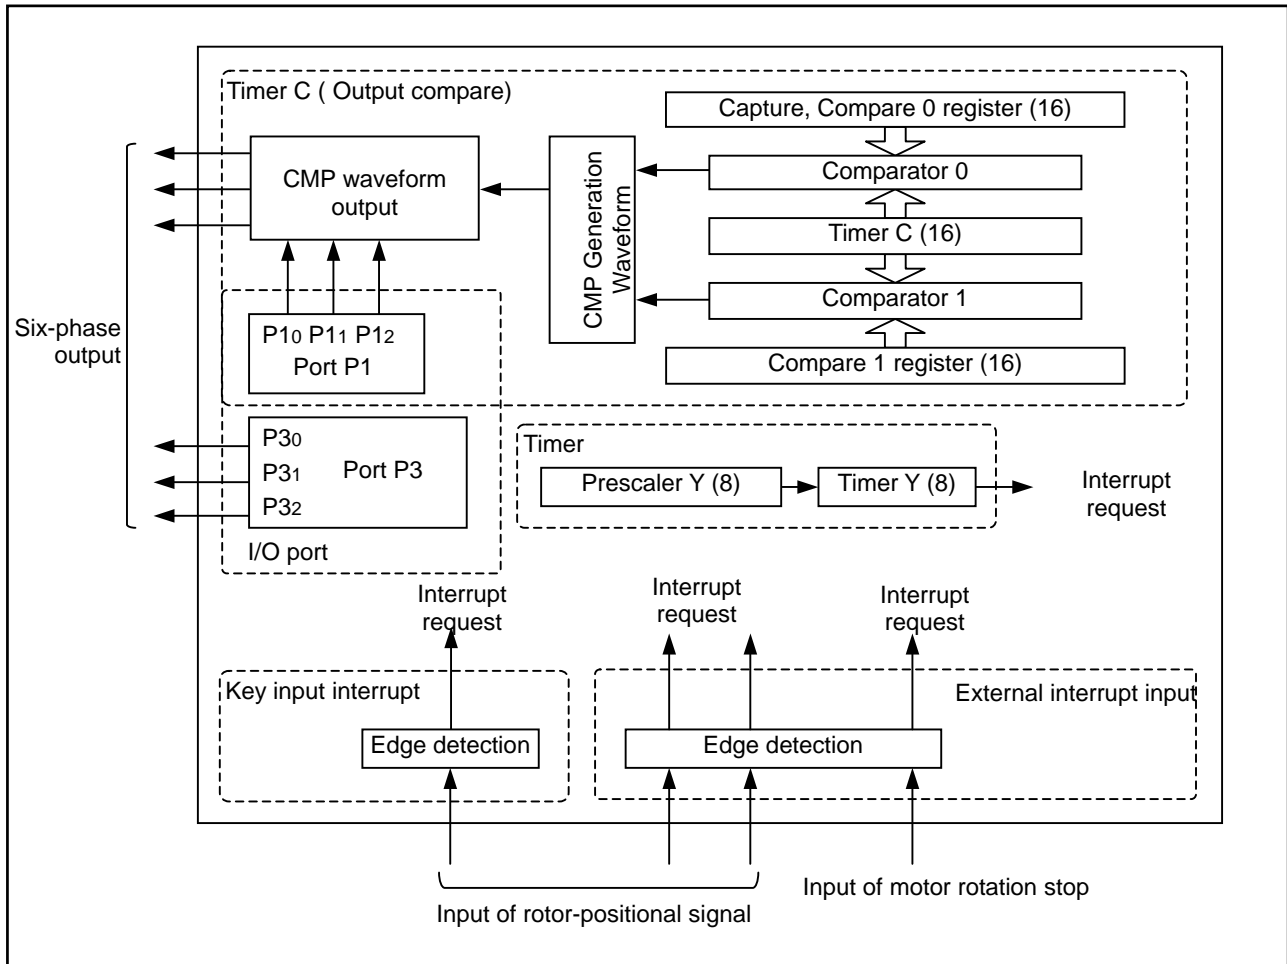

Figure 3.2 Block Diagram of the Configuration for Controlling a Brushless DC Motor
1. As shown in Figure 3.2, timers C (output compare), external interrupt input, key input interrupt, I/O port (Port P1, P3) and timer (timer Y) of the R8C/11 Group are used to implement functions required to control a brushless DC motor.